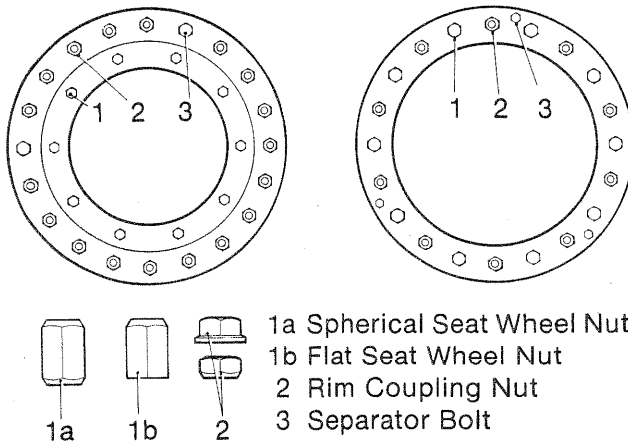

Fig 12-4
Check the wheel and wheel nuts for damage. Tighten the wheel nuts as required to a torque of 575 to 645 N.m (425 to 475 lbf.ft) for SPHERICAL wheel nut seats (See Fig 12-4).
3. Use tire tongs or another suitable tire lifting device to support the rim and remove the **WHEEL STUD NUTS** (See Item 1 in Fig 12-4). Remove the assembly from the machine.